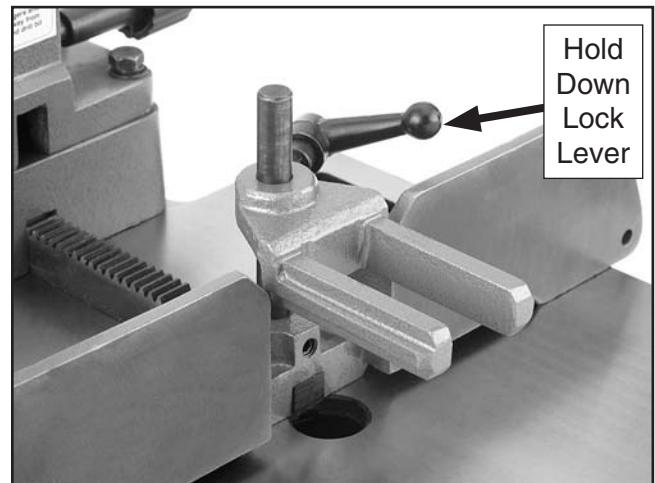

Figure 25. Low hold down position.
2. Loosen the hold down rod lock lever, adjust the bottom of the hold down $\frac{1}{16}$ " above the top of the workpiece—allowing the workpiece to move horizontally for making multiple mortises, then secure the lock lever, as shown in **Figure 25**.
When placed in the position shown in **Figure 25**, the bracket will hold down a workpiece slightly taller than the fence.